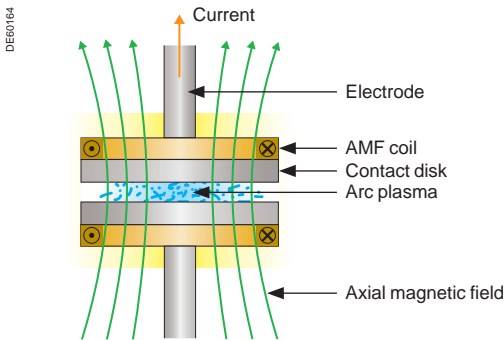
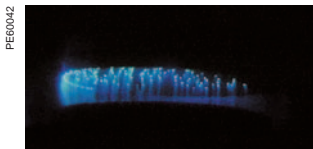

Fig. 2: cross-section of AMF contact
Fig. 3: diffuse vacuum arc AMF technology
- a more recent technique called AMF (Axial Magnetic Field) involves applying an axial magnetic field parallel to the axis of the two contacts (fig. 2) which allows a diffuse arc to be maintained (fig. 3) even at high current values. The arc energy is spread over the whole contact surface area, therefore causing very low levels of erosion.